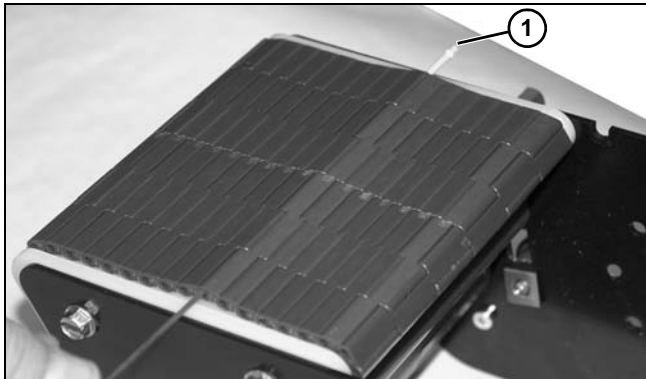

Figure 139
7. Bring ends of belt together and install pin (**Figure 139, item 1**).